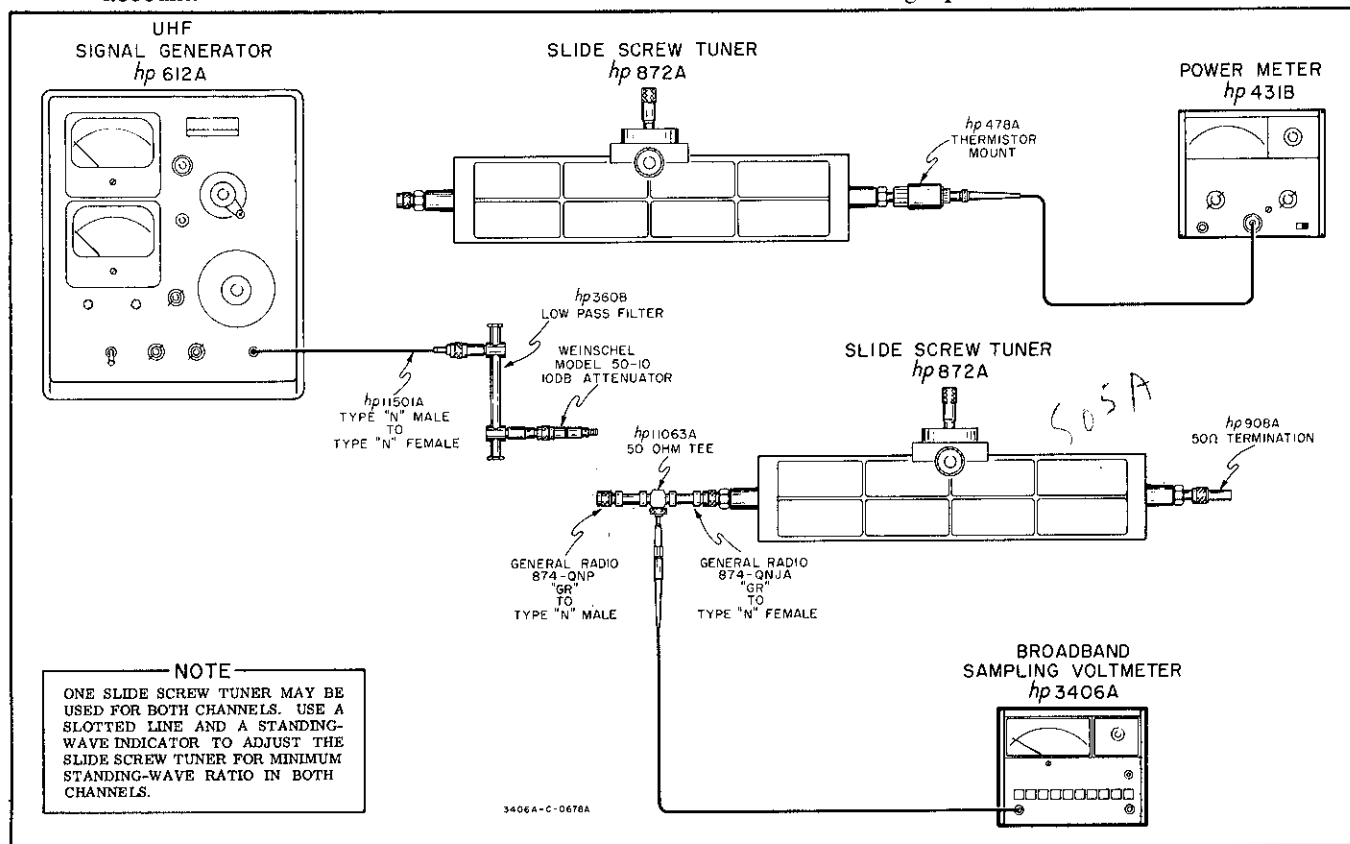

Figure 5-3. 500 MHz to 1 GHz Frequency Response Test Setup
5-12. The 500 MHz to 1 GHz frequency response test setup is illustrated in Figure 5-3. The following equipment is required for this check:
- a. Connect Model 3406A as illustrated in Figure 5-3.
- f. Reconnect the UHF oscillator to 3406A channel as illustrated in Figure 5-3, and readjust the slide screw tuner to setting recorded in step c.
5-29. The test setup illustrated in Figure 5-3 is required for the frequency response adjustment. The following equipment is required for this adjustment:
- a. Connect test setup illustrated in Figure 5-3.